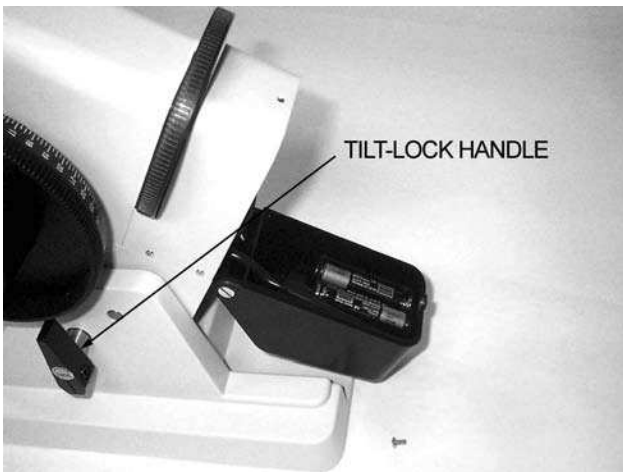

Fig. 4
2. Open the battery compartment and install two “AAA” batteries. (Figure 4)
2. Rotate the Base Tilt Lock Handle counterclockwise to loosen the tilt mechanism. (Fig. 4)